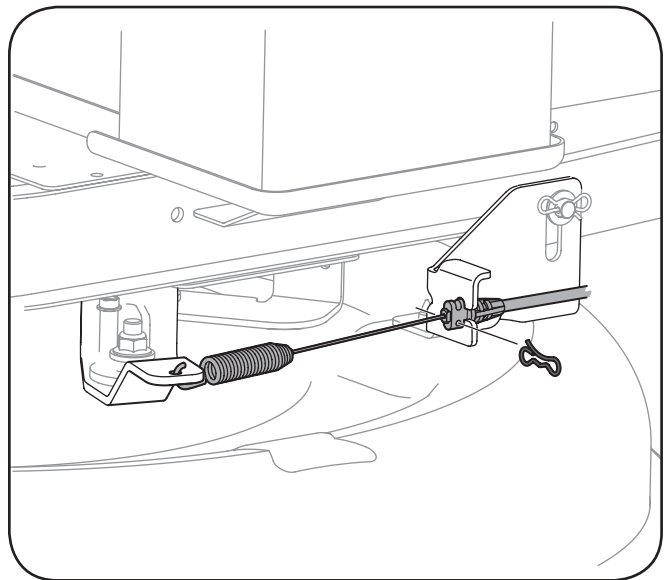

Figure 7-4
8. Carefully remove the PTO cable from the rear of the cutting deck by removing the bow-tie cotter pin which secures it. Remove the spring from the deck idler bracket. See Fig. 7-4.